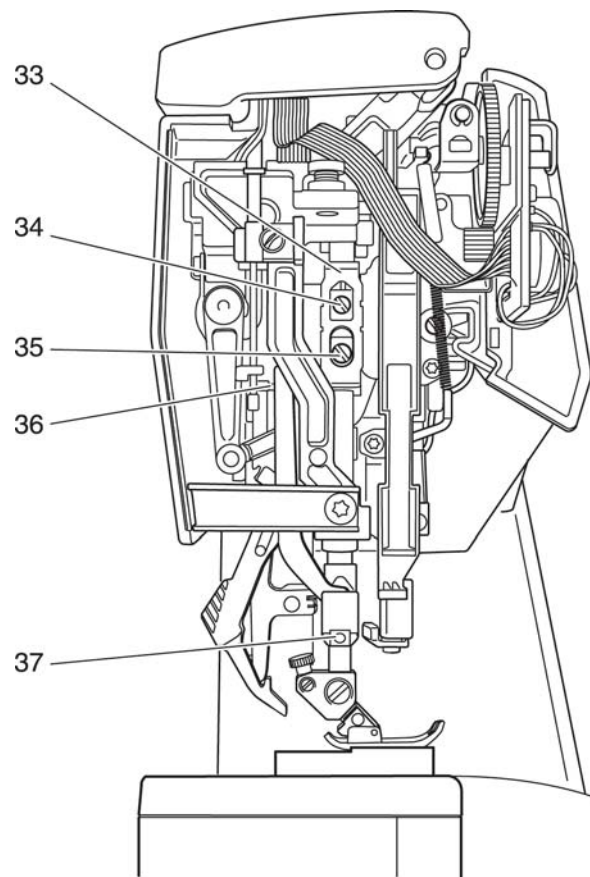

Fig. 7a
- However, the presser foot gauge must not lift the presser foot # 0A, and the needle thread tension release 33 must be without play (fig. 7a).